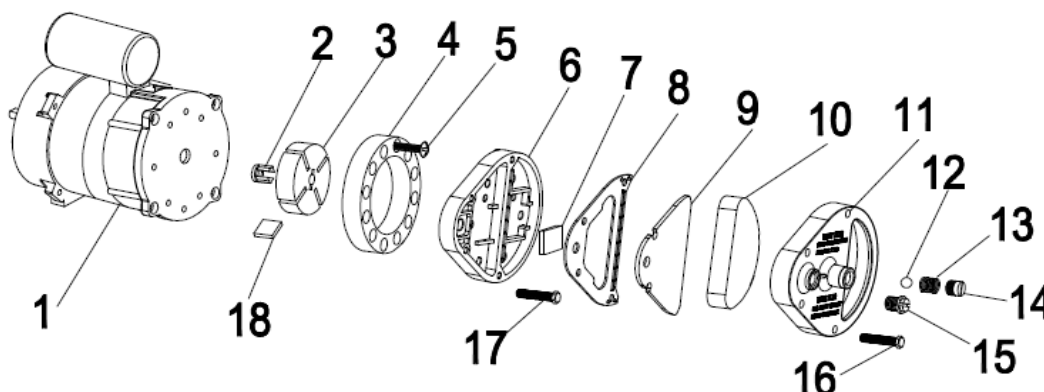

Figure 2
Clean air filters. Remove filter End Cover (11), wash Air Intake Filter (10) using a light detergent and dry it thoroughly before re-installing. Replace Air Delivery Filter (9) once a year (Fig.2)